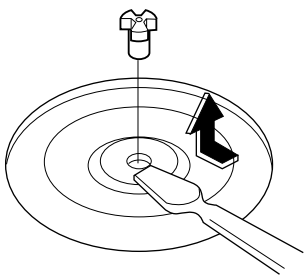

Figure 19
- (1) Remove the turntable.
- (2) Remove the turntable shaft VERY CAREFULLY with a slotted screwdriver. (Figure 19)